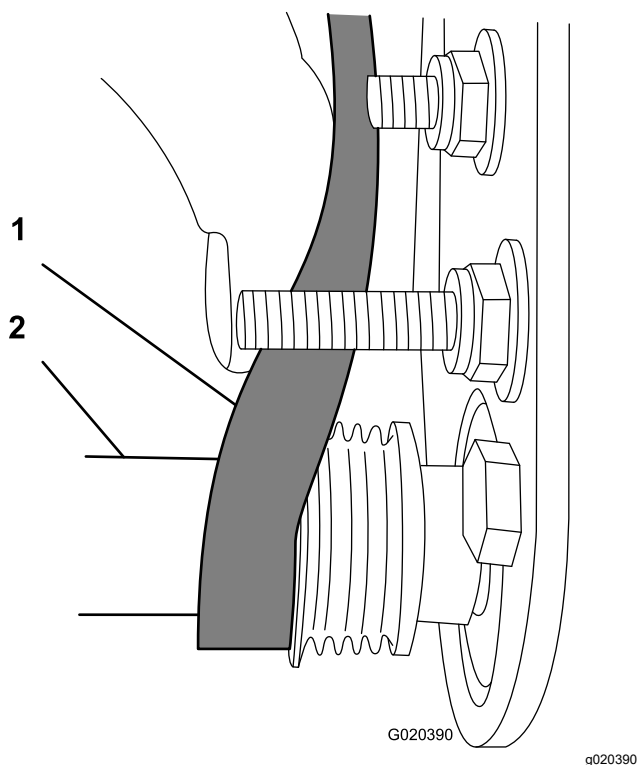

Figure 27
- C. Use a 9/16-inch deep-well socket to rotate the brush assembly and guide the belt onto the driven pulley (Figure 27).